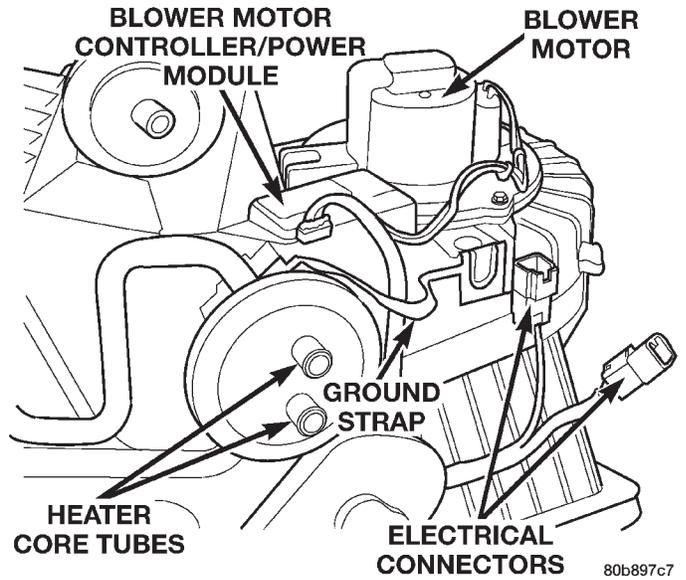
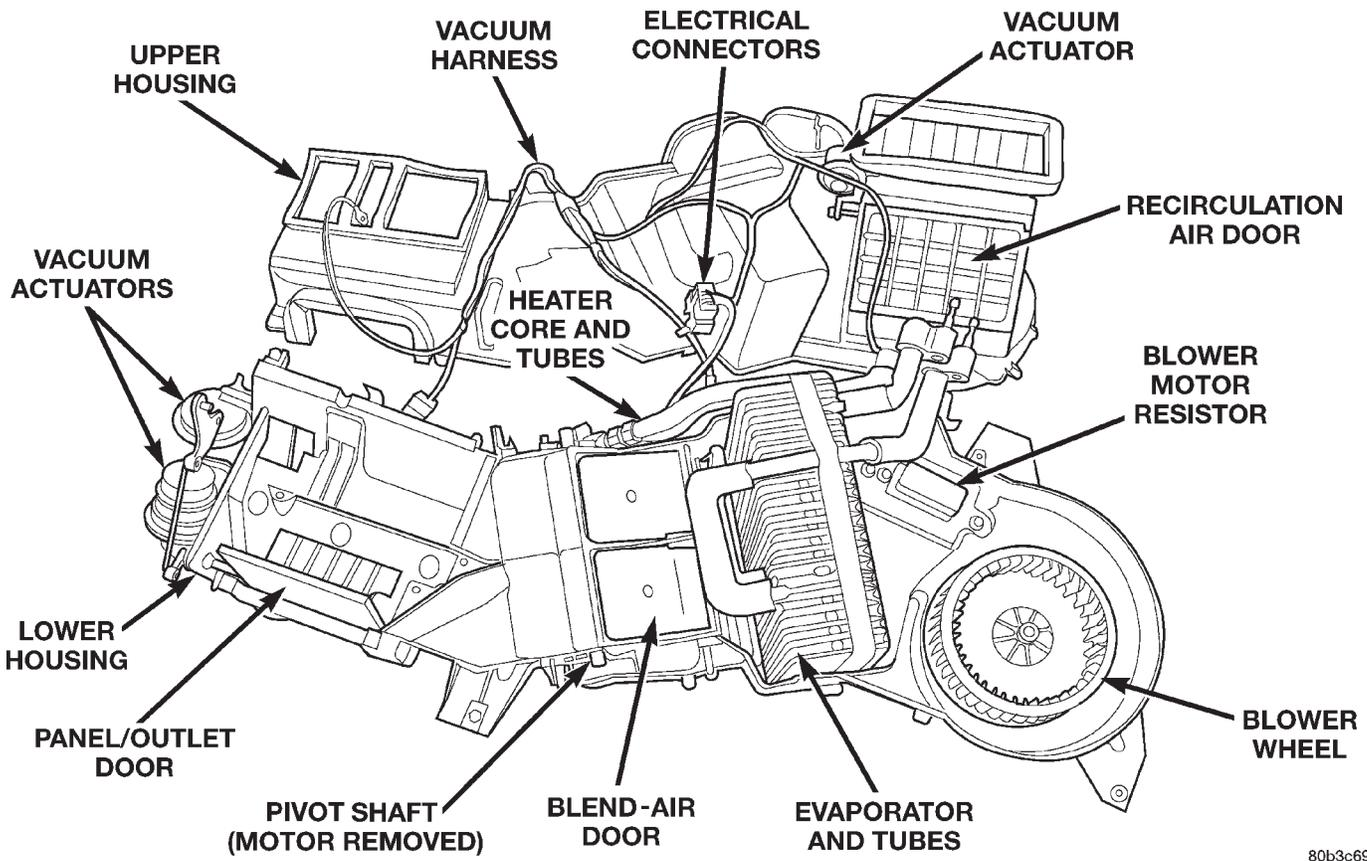

Fig. 22 Wire Harness Electrical Connector(s)
Fig. 23 Upper and Lower HVAC Housing-Separated
(8) Release the wire harness electrical connector(s) from the mounts on the lower case at the blower motor end of the unit (Fig. 22).
(9) Remove the 10 screws that secure the two housing halves to each other.
(10) Separate the top half of the heater-A/C housing from the bottom half (Fig. 23).
(11) Remove evaporator from lower case to ease access to plastic door shaft bushing.
(12) Pinch the retention tabs holding the blend-air door pivot shaft bushing to the case. The 3 plastic tabs, located on the inside of the case, are part of the shaft retainer.
(13) Remove door(s).